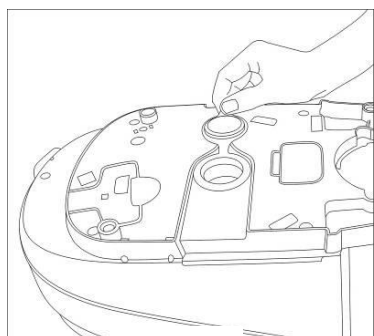

Fig 7
5. Turn the steam station upside down and pull back the boiler cap cover as Fig 7.